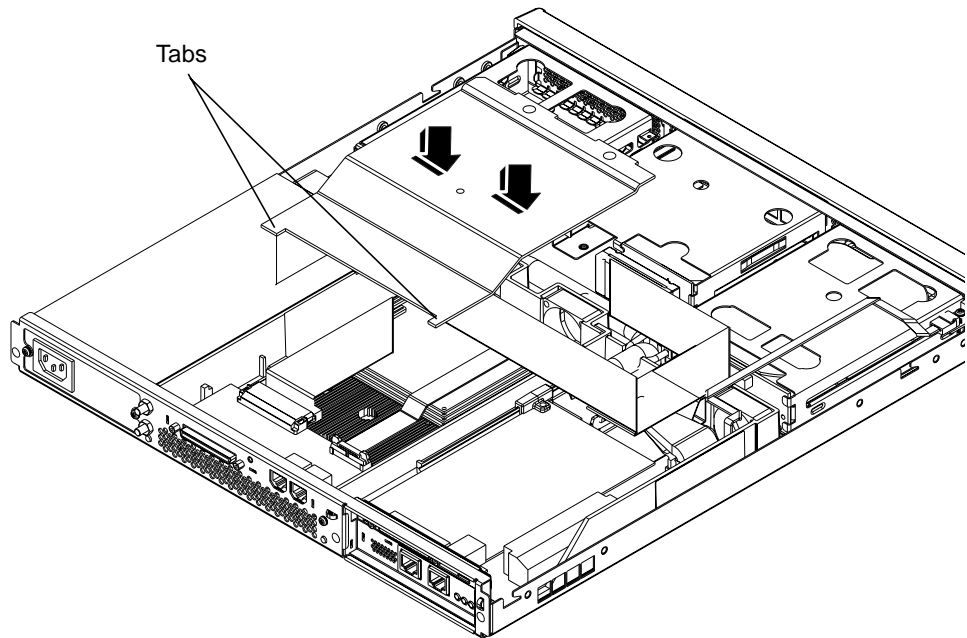

FIGURE B-8 Replacing the Processor Cover
4. Re-install the processor cover (see FIGURE B-8), ensuring that the corner tabs are put back underneath the rear I/O card.